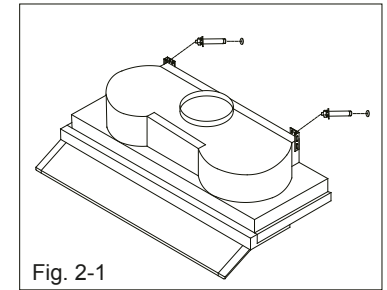

Fig. 2-1
4. Drill two holes on the wall for mounting the Bracket. Insert the provided expansion screw into the holes and tighten the nut. Loosen the nut after the expansion screw was fixed on wall, then hang the hood Brackets onto the expansion screws. Tighten the screw nut to fix the unit in position. (Fig. 2-1)